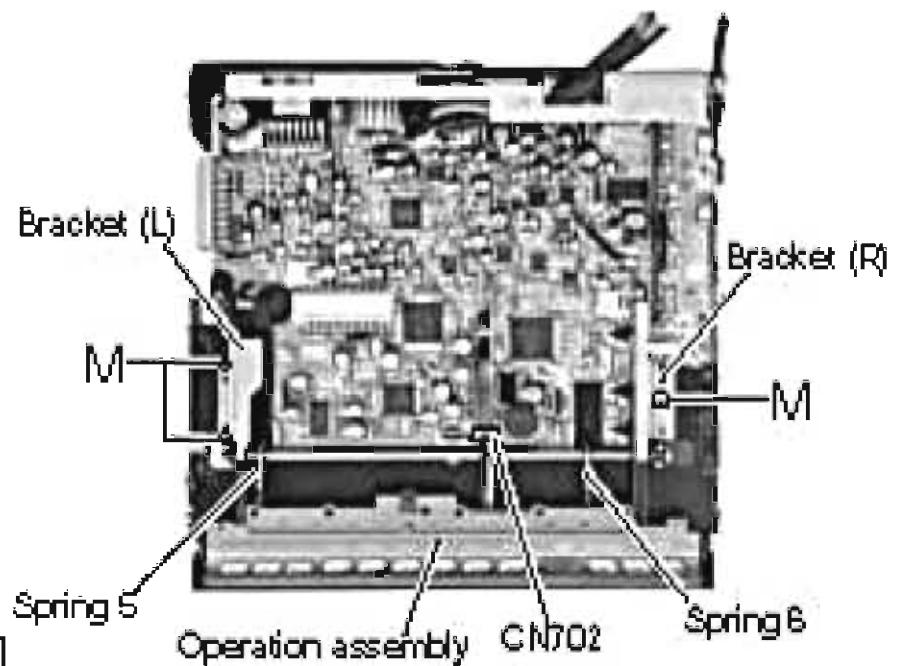

Fig.13
■ Removing the operation assembly (See Fig.13 to 17)